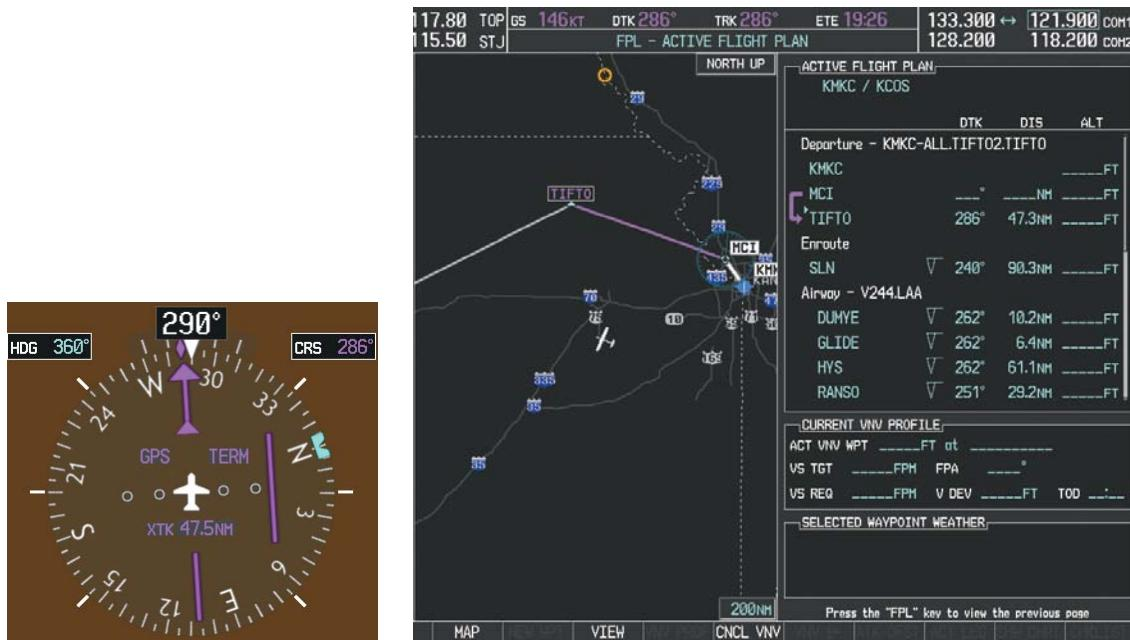

Figure 5-106 Assigned Heading of  $290^{\circ}$
- 3) ATC now assigns routing to join V4. A heading of  $290^{\circ}$  is assigned to intercept V4. The aircraft turns to heading  $290^{\circ}$  as seen in Figure 5-106.